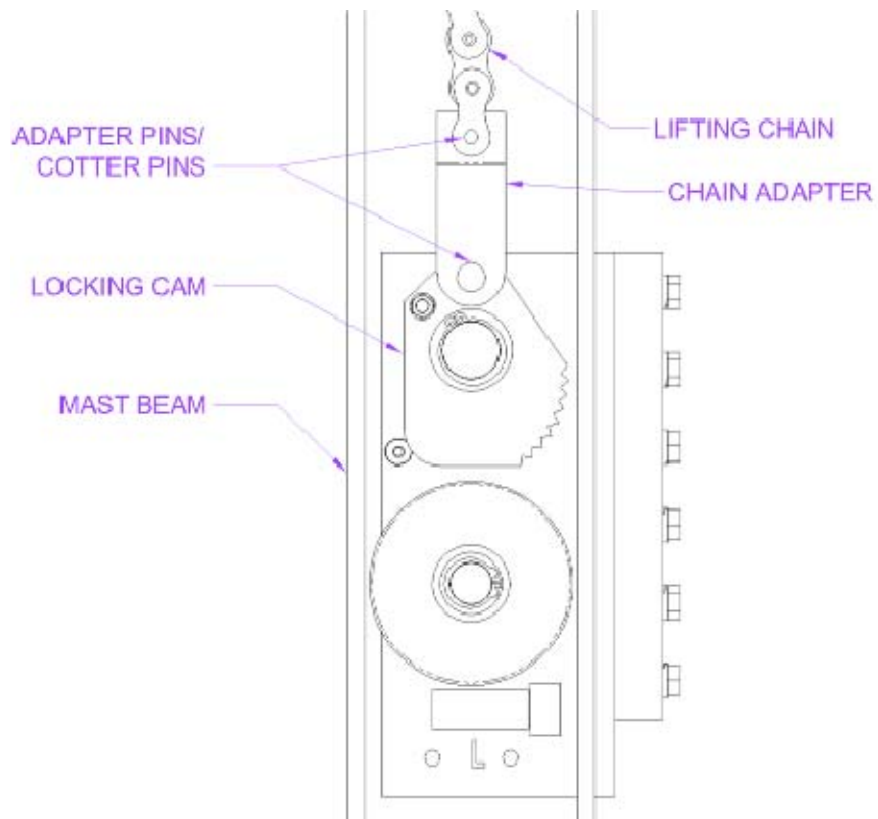

Figure 19b Upper Wheel Guide Assembly in Mast Beam (Side View)
2. Attach the lifting chains to the chain adaptors and the chain adaptors to the upper wheel guide locking cams using the high strength adaptor pins and cotter pins provided as shown in **Figure 19b**.
3. Pull on the chain where it attaches to the wheel guide assembly. Slide the wheel guide assembly down the beam until it is approximately seven (7) feet from the bottom of the beam. The upper wheel guide blocks should then be positioned so that they will align with the uppermost sets of holes in the carriage uprights once the beam is raised into position.